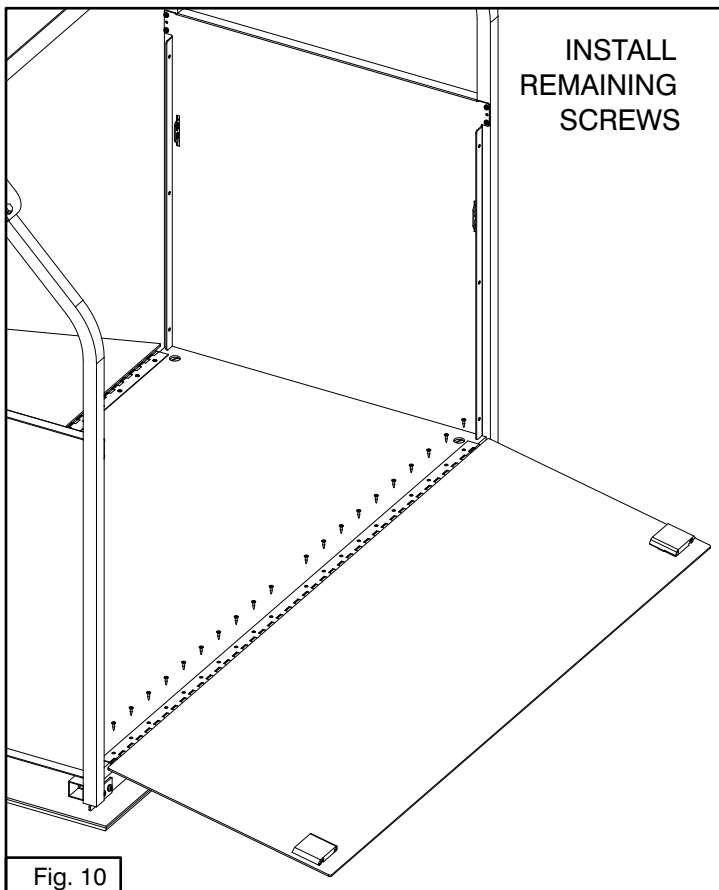
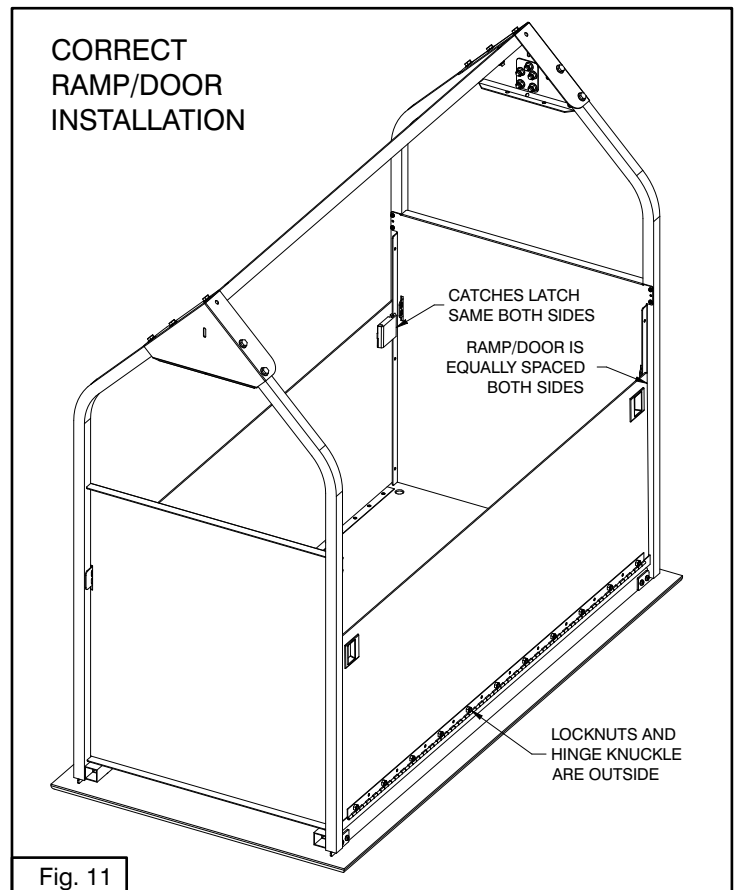

Fig. 10
Fig. 11
Step 9. When you are satisfied that the ramp/door is centered and the hinge knuckle is flush against the front edge of the platform, then install the remaining screws (Fig. 10). Check to make sure your ramp/door is correctly installed as illustrated in Fig. 11.